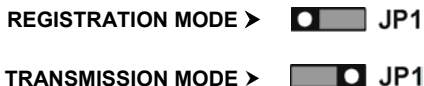

Figure 4: Mode Jumper Configuration
- Set the siren to Registration mode by placing the Mode jumper (JP1) as shown in Figure 4.
- Set the siren to Transmission mode by placing the Mode jumper (JP1) as shown in Figure 4; the siren transmits a signal every few seconds.